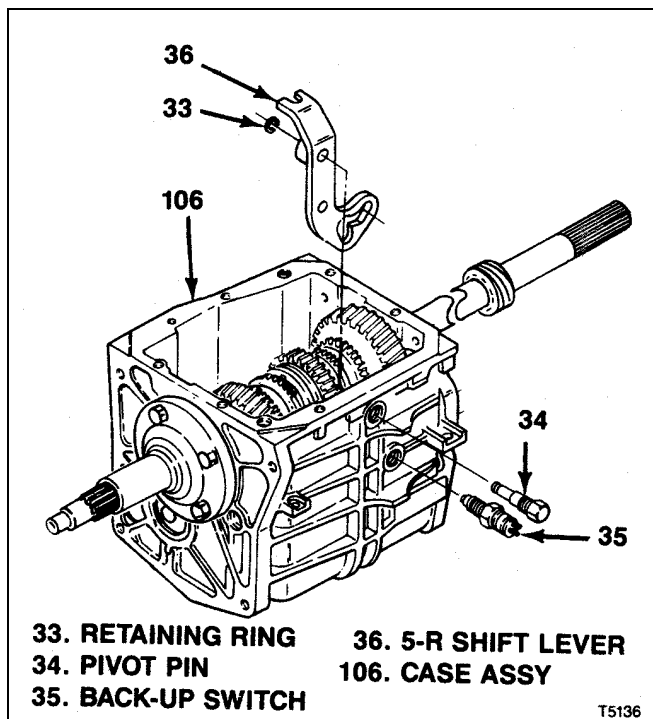

Figure 4-4. T5 STD 5-R Shift Lever
- b. If necessary, use suitable knife to bread sealant bond between case cover (32) and transmission case (106). Move case cover and attached parts toward drain plug side of transmission approximately one inch, then lift straight.
- c. Drive out pin (22).
- d. Slide out shifter shaft (23), freeing shift forks (24 and 25), selector arm assembly (27), interlock plate (28) and selector plates (29) from case cover (32).
- e. Remove inserts (26) from shift forks (24 and 25).
- f. Remove o-ring (30) from case cover (32) but not plug (31).
**4-10. REMOVAL OF T5 STD 5-R SHIFT LEVER** (see figure 4-4):
- a. From inside transmission assembly, remove retaining ring (33).
- b. From outside transmission, remove pivot pin (34) and back-up switch (35).